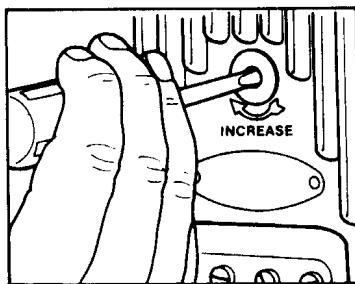

FIGURE 33: ADJUSTING REGULATOR VOLTAGE SETTING 06079
4. If not, the desired setting can be obtained by removing the plug from the voltage regulator cover and slightly turning the adjusting screw inside the regulator. Turn the adjusting screw clockwise to increase the voltage setting or counterclockwise to decrease it. See figure 33 for details.
**Resistor R2** = Turn voltage adjustment screw (identified in figure 33) with ohmmeter connecting each way. Reading should change as slotted screw is turned. If not, replace R2.